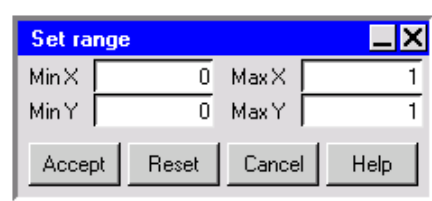

Figure 7.7.11: The **Set range** Panel
- To set the minimum and maximum values for the scales on the axes, click on **Set range**. This will open the **Set range** panel (Figure 7.7.11).